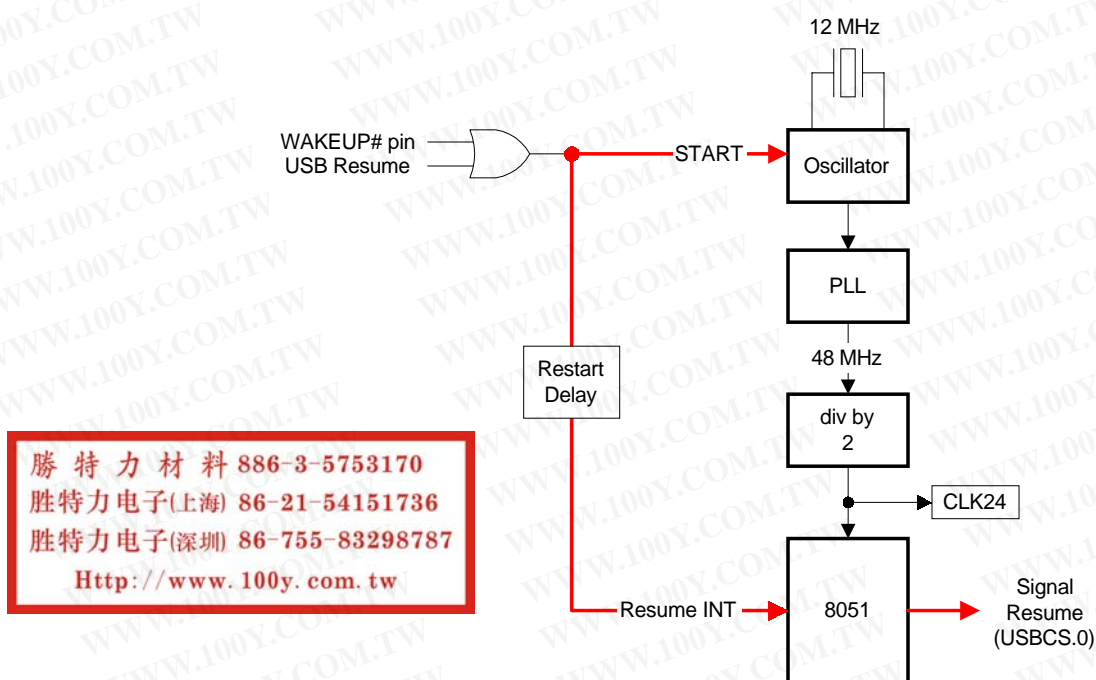

Figure 11-3. EZ-USB Resume Sequence
- USB bus activity resumes (shown as “USB Resume” in Figure 11-3), or